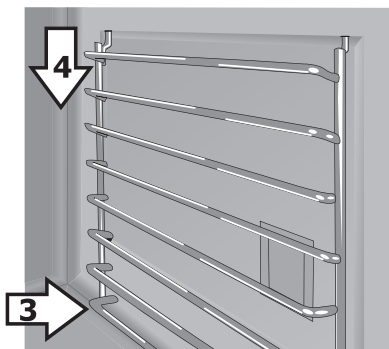

Figure 14: Ladder rack supports - bottom prongs
3. Once the upper prongs are in place, hold the oven rack support flush with the oven side and insert the bottom prongs into the bottom holes (Figure 14).
4. Slide the bottom prongs down into the lower holes. Some force may be required to set the rack into place (Figure 14).